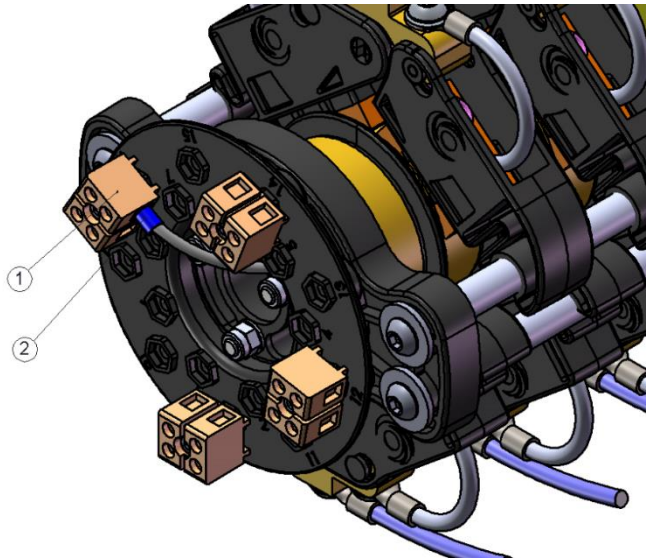

Fig. 17
- Loosen the screw of the terminal blocks (1) (Fig. 17);
- Position the termination (2) on the terminal blocks according the labelling of terminal board ;
- Secure the termination with the screw of the terminal blocks (1).